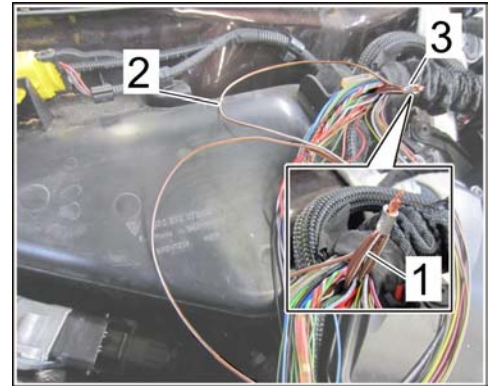

Figure 7
- Make sure that all strands are contained in the BDM clip and are sticking out by about 2 mm (⇒ *Figure 7 -inset-*).